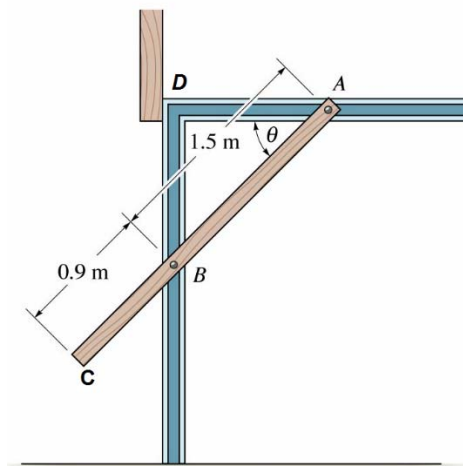

Figure 3
3. The one piece garage door ABC is made of 3 m wide thin plate with a mass of 100 kg. The end A moves along the horizontal and point B moves along vertical track as shown in Figure 3. The door is initially at rest when $\theta = 0^\circ$.